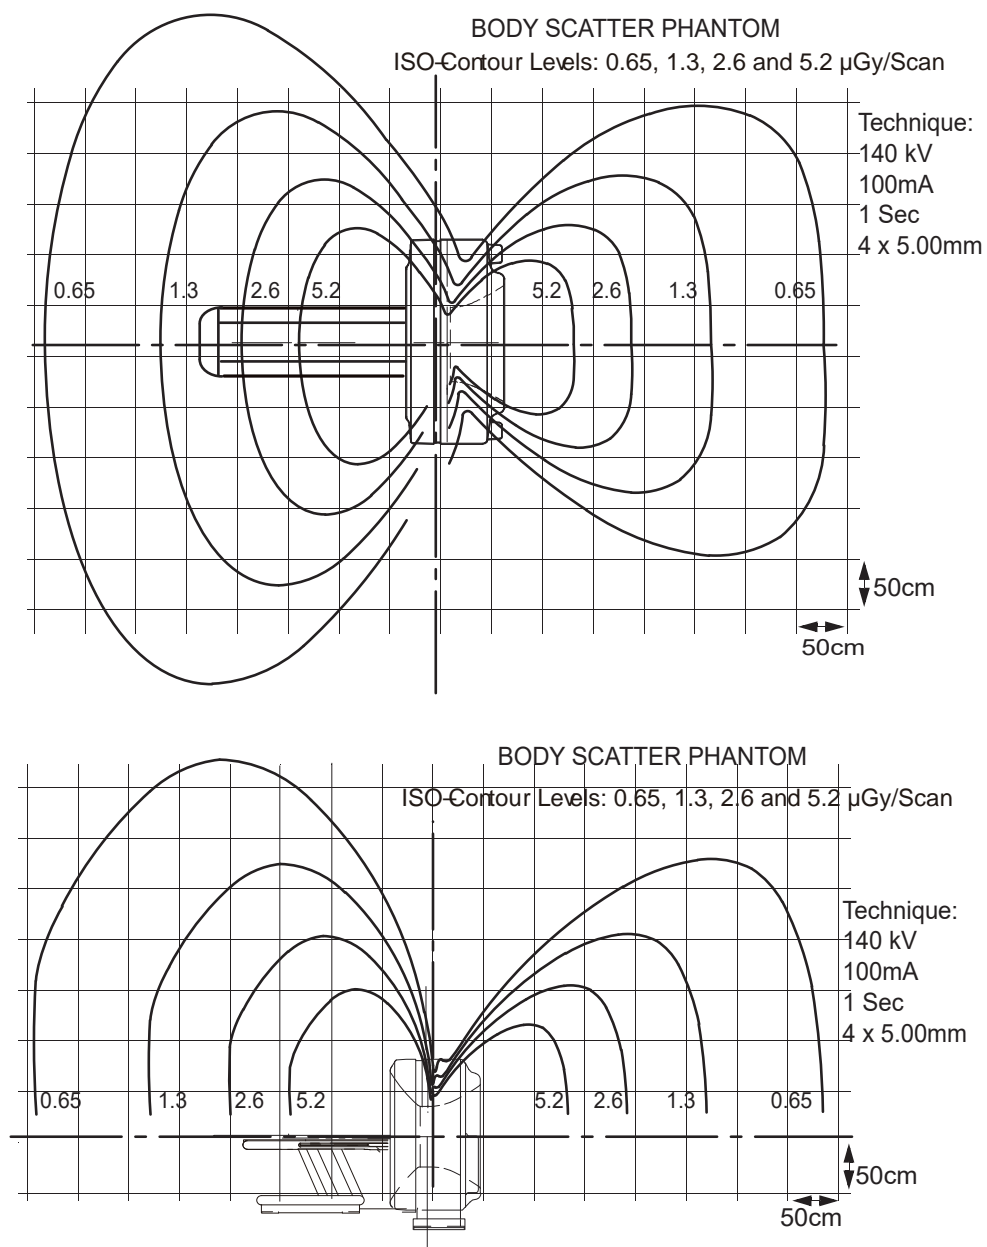

Figure 4-30 Typical Scatter Survey (Body Filter)
- Scatter radiation levels within the scanning room (see Figure 4-30)